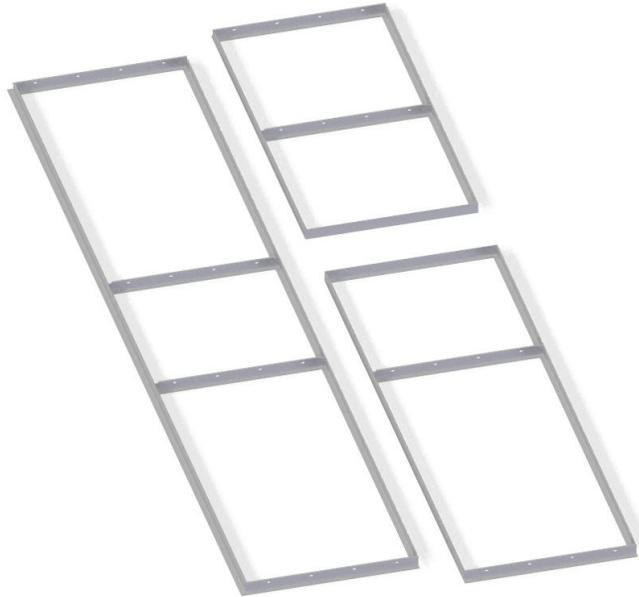

Figure 6: Ceiling Modules
Step 2: Unpack ceiling modules and lay them out on the floor (**Figure 6**) as per the job specific submittal package.